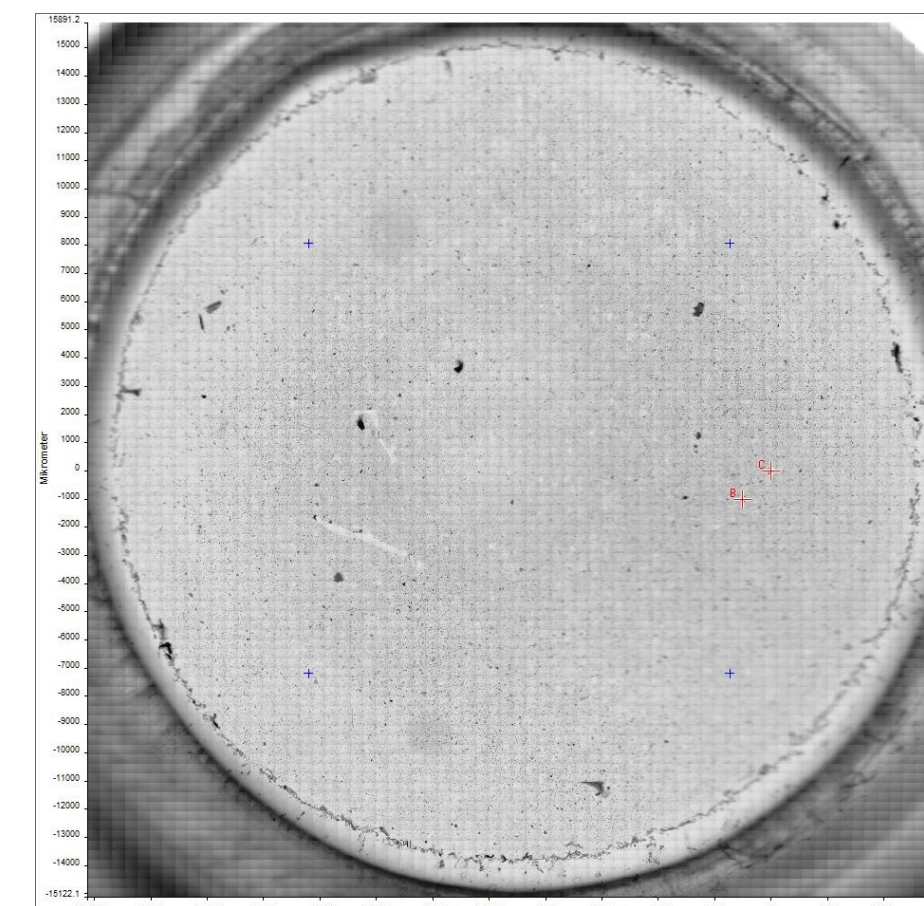

Fig. 2: Visual image of IR transparent filter covered with 1-2 mg micro particles (image section: 2.5 cm x 2.5 cm)
1. FT-IR transmission measurement and imaging of sample aliquot on IR transparent filter material (Fig.2).